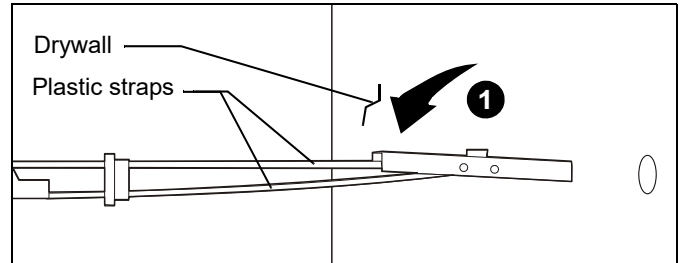

Figure 24
1. Hold metal channel on anchor flat alongside plastic straps and slide channel through hole. (See Figure 24)